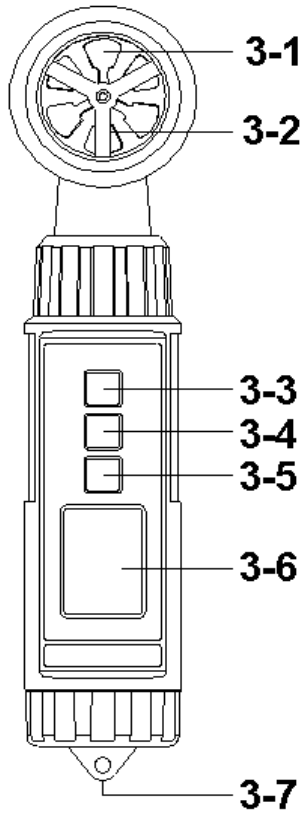

Fig. 1
1) Turn on the meter by pressing the " Power Button " (3-3, Fig. 1) momentarily.
** Pressing the " Power Button " (3-3, Fig. 1) momentarily again will turn off the meter.*
Pressing the " Mode Button " (3-5, Fig. 1) continuously (not release the button), the Display will show the following text in sequence :
Until the Display show the desired model (Function), just release the " Mode Button " (3-5, Fig. 1), the meter will execute this function with default.
(3-3, Fig. 1) momentarily.
- 3) Pressing the " Unit Button " (3-4, Fig. 1)
just release the " Unit Button " (3-4, Fig. 1), the
Button " (3-4, Fig. 1),
(3-3, Fig. 1) momentarily, until the Display light,
(3-4, Fig. 1) momentarily to hold the measured value. The LCD will show a " HOLD " symbol.
- 1) The data record function records the maximum and minimum readings. Press the " REC Button " (3-5, Fig. 1) momentarily to start the Data Record function, shows " REC " on the display.
- a) Press the " REC Button " (3-5, Fig. 1) momentarily, the " REC MAX " symbol along with the maximum value will appear on the display.
- b) Press the " REC Button " (3-5, Fig. 1) momentarily again, the " REC MIN " symbol along with the minimum value will appear on the display.
** When display shows " REC MAX " or " REC MIN ", press the " Hold Button " (3-4, Fig. 1) momentarily will delete the max. (min.) value, the display will show the " REC. " only and execute the memory function continuously.*
- 2) To de-activate this feature, Select the memory record function during measurement, by pressing the " REC Button " (3-5, Fig. 1).
- * To change the batteries, open (rotate clockwise direction) the " Battery Cover " (3-7, Fig. 1).
- * Make sure the " Battery cover " (3-7, Fig 1) is secured after changing the batteries.